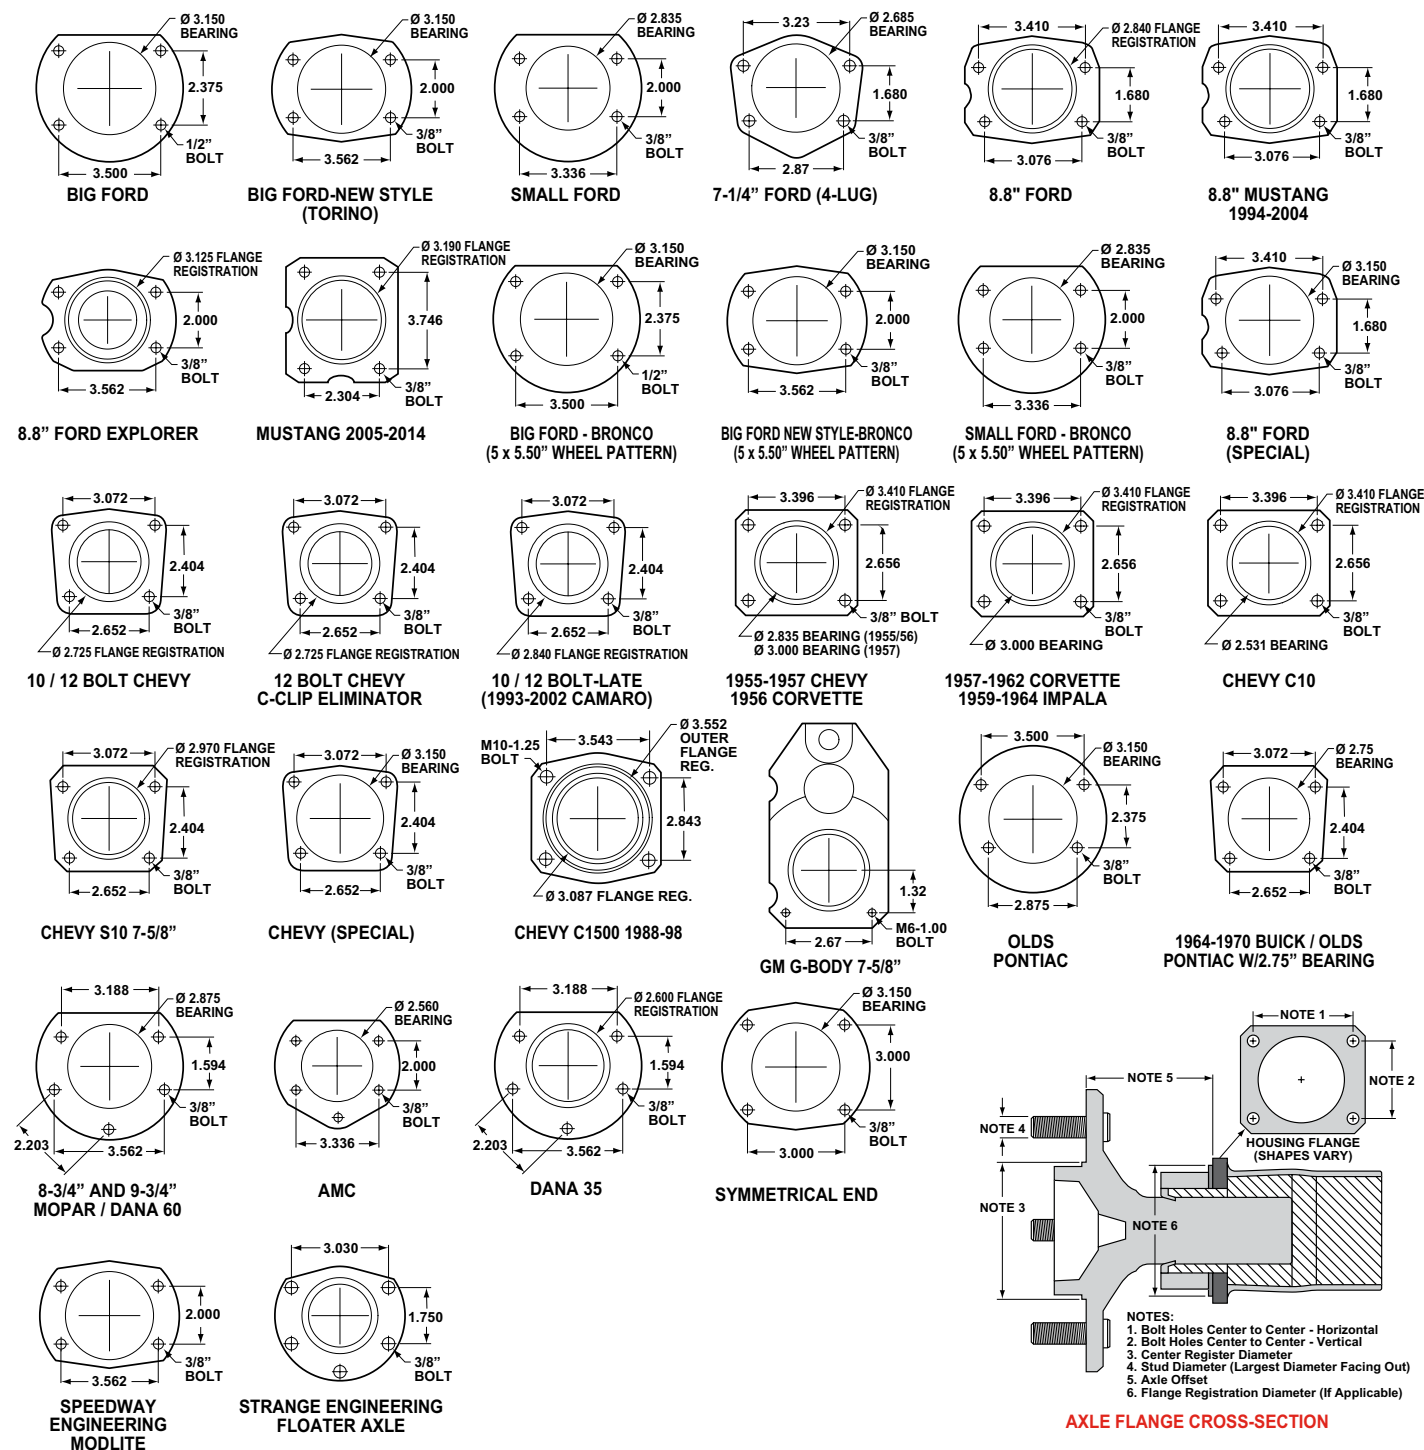

Figure 6. Rear Housing Flange Chart and Axle Flange / Offset Cross-Section
- Make sure this is the correct kit to fit the axle housing flange, not necessarily the rear end make. Many times aftermarket manufacturers put a different make of axle housing flange on the stock rear end housing (Figure 6). Example; Big Ford rear ends with Olds-Pontiac flanges, therefore, an Olds-Pontiac rear disc brake kit would be the correct kit to order.
- Dimension from wheel side of axle flange to wheel side of axle housing flange (see Figure 6, lower right hand corner). This dimension is critical to ensure proper alignment of the rotor to the caliper, and should match offset given in the kit description.